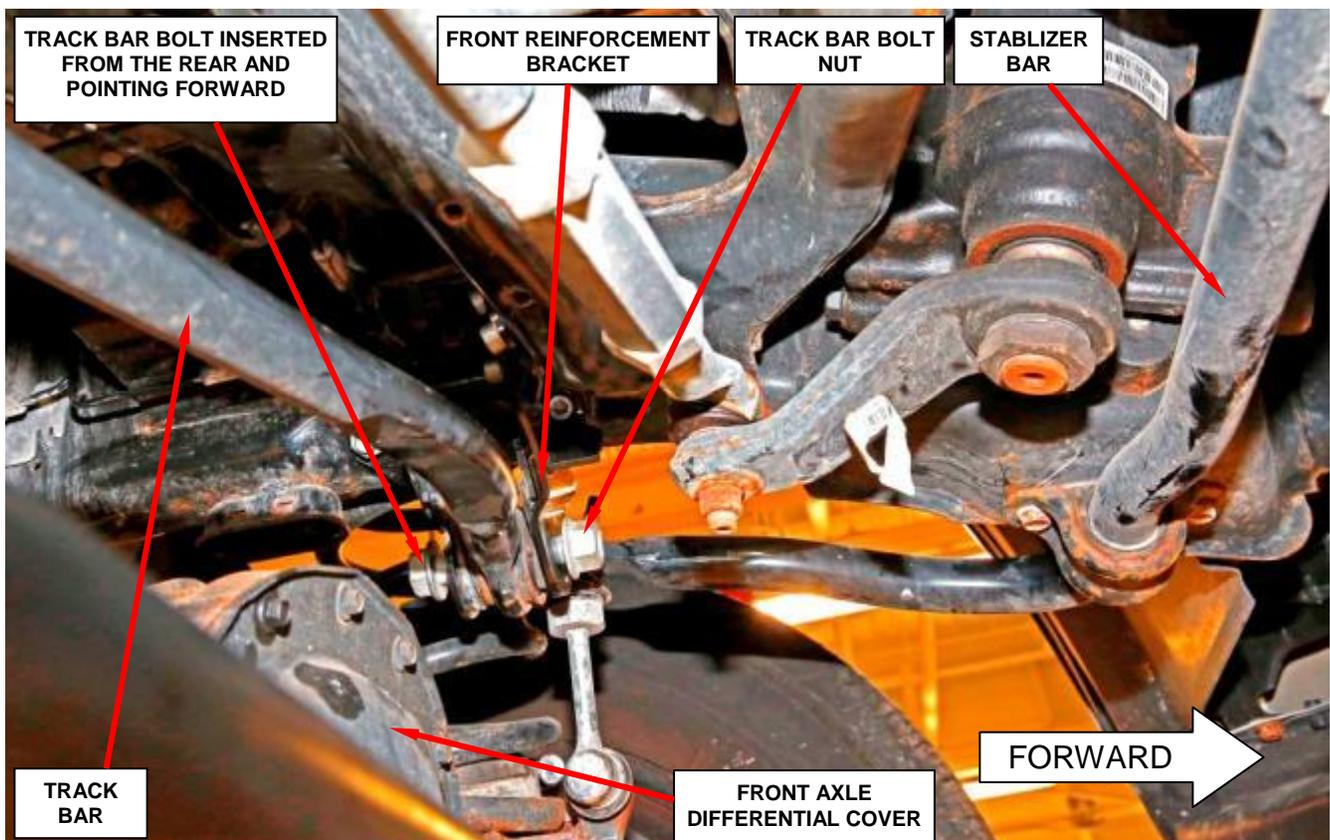

Figure 28 – Install Track Bar Bolt in Orientation Shown
63. Place the track bar into position and install the new track bar bolt. The bolt must enter from the rear of the vehicle and point forward, with the track bar bolt nut on the front side (Figure 28).
CAUTION: If the track bar bolt is installed facing rearward, the suspension will hit the track bar bolt during suspension travel. Install the bolt through the rear reinforcement bracket first, with the nut going against the front reinforcement bracket (Figure 28).